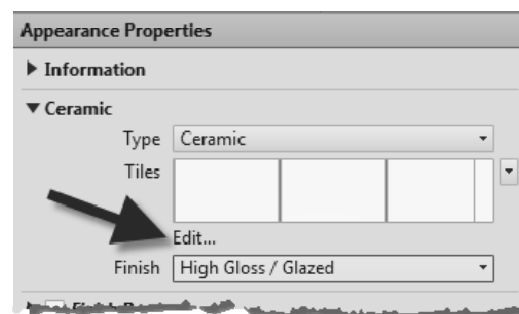

FIGURE 4-4.4 Edit tile material
21. Click the **Edit...** link below the *Tiles* preview (Figure 4-4.4).